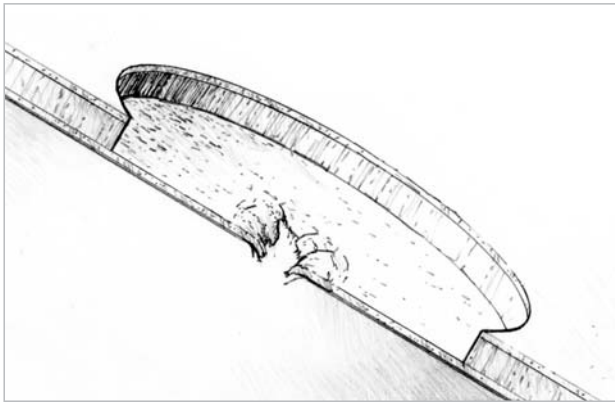

Figure 5-15 Cut back the outer skin and core several inches from the hole through the inner skin.
2. Cut back the outer skin and core several inches from the edge of the hole through the inner skin to provide an area wide enough to grind a 12-to-1 bevel around the edge of the inner skin (*Figure 5-15*). Use a router with a straight fluted bit set to the depth of the outer skin and core only, to avoid cutting the inner skin. Cut the core and outer skin back 12 times the thickness of the inner skin plus about 1" (25mm) to leave enough room to grind the inner skin bevel. For example, if the inner skin is $\frac{1}{4}$ " (6mm)-thick, the bevel will extend 3" (7.5cm) from the edge of the hole.